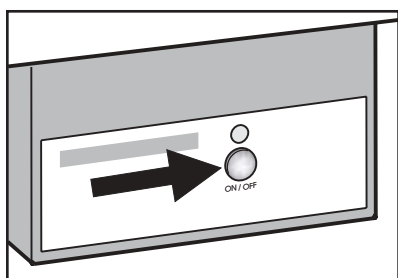

Figure 11
To Start the IceMaker - Figure 11
- Press the "ON/OFF" button so the control lamp comes on (**Figure 11**).